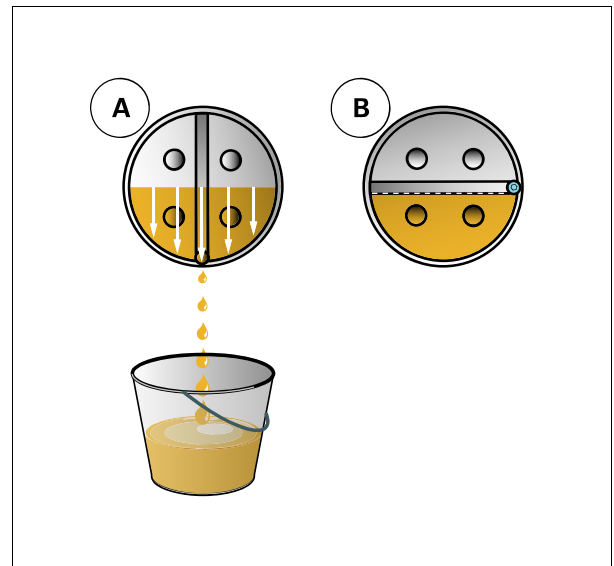

Fig. 5.
1. Turn the wheel until the plug is horizontally aligned with the centre of the hub (B) .fig. 5